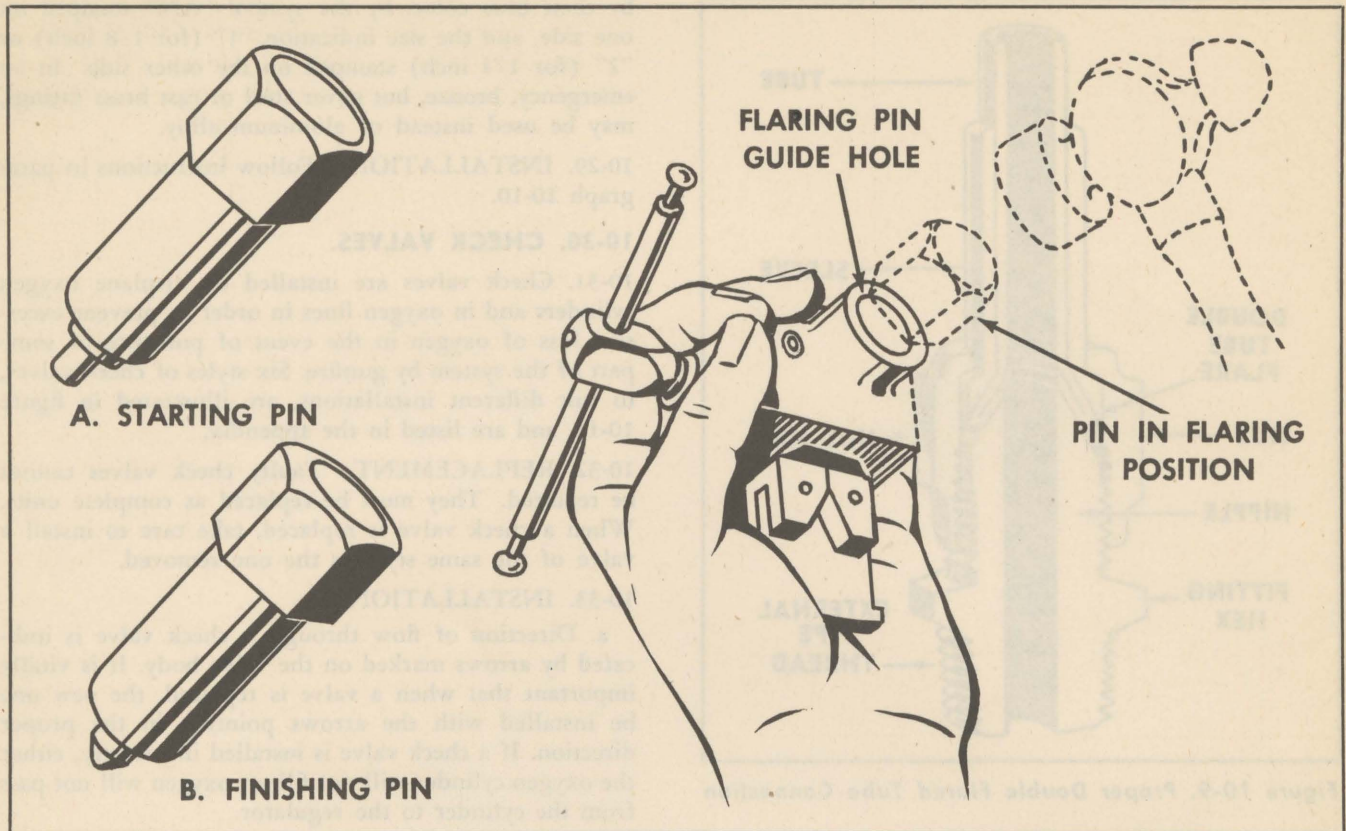

Figure 10-7. Flaring Tube with Double Flaring Tool Pins (A & B)
b. Hold the double-flare tool in the palm of the hand as shown in figure 10-7, with the tube extending between the second and third fingers. Double flaring requires two operations.
c. Insert the starting pin (figure 10-7, detail A) into the flaring pin guide, and hammer it with sharp blows until the shoulder of the pin stops against the clamp
d. Insert the finishing pin (figure 10-7, detail B) into the flaring pin guide, and hammer it with sharp blows until the shoulder of the pin seats on the clamp blocks. Remove finishing pin, and unclamp tube.